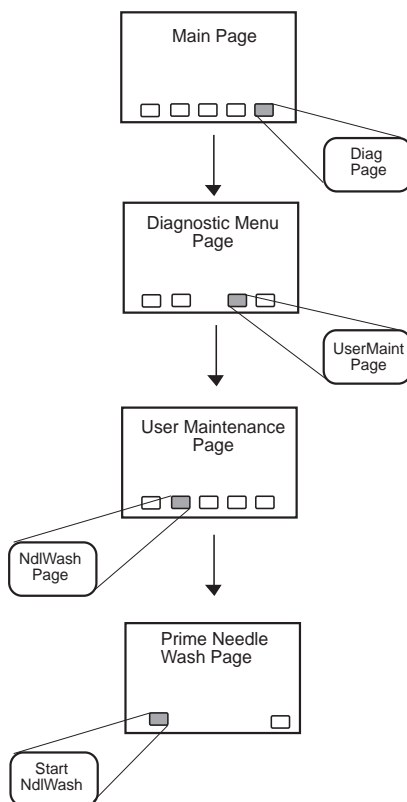

Figure 3-7 Priming the Needle Wash Pump
2. To prime the needle wash, press the keys outlined in the flowchart below (Figure 3-7).